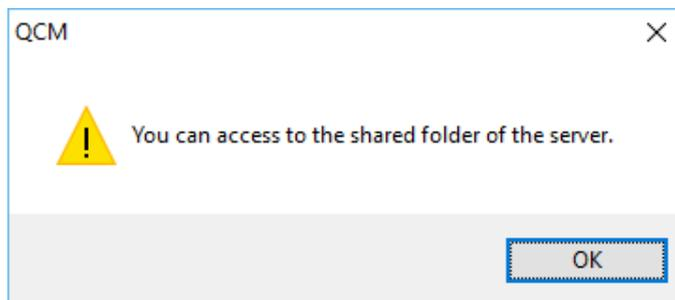

Figure 2.23 Successfully Accessed to the Shared Folder
7. If the Windows account info matches, a message appears as shown in Figure 2.23.